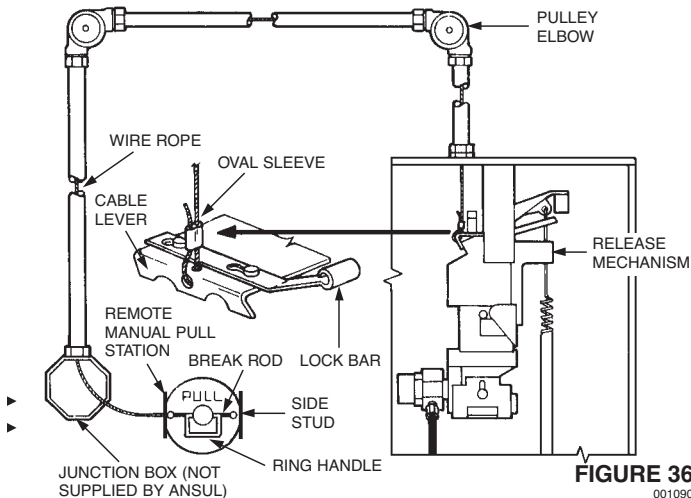

FIGURE 36
3. Install and secure 1/2 in. conduit, pulley tee (if required), and pulley elbows from each pull station junction box to regulated release assembly as necessary. See Figure 36.
6. Slide oval crimp sleeve onto wire rope. Loop wire rope through cable lever guide holes and back through the oval crimp sleeve. See Figure 36.
7. Pull slack out of each wire rope and crimp sleeve. (Use the National Telephone Supply Company Nicopress Sleeve Tool Stock No. 51-C-887 or equal to properly crimp stop sleeve.) See Figure 36.